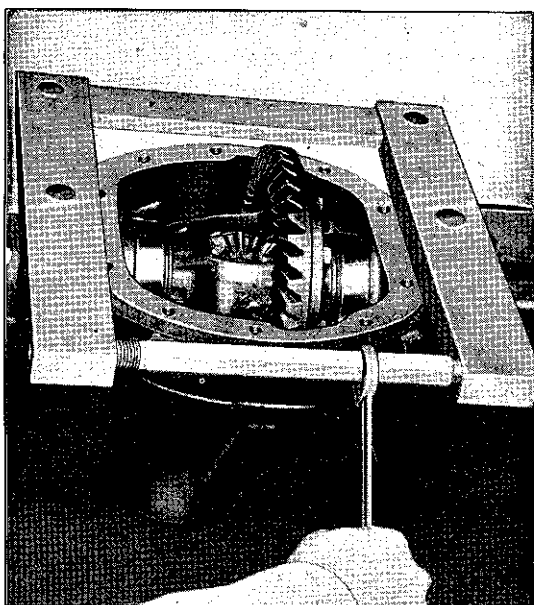

FIG. 258—DIFFERENTIAL CARRIER SPREADER
c. It is necessary to spread the carrier as the differential bearing has initial preload. Use Housing Spreader Tool W-129 as shown in Fig. 258 to spread the housing. Install W-129-18 hold down clamps, if available, to keep the spreader in position. Clamp on a dial indicator. From the side, measure the carrier spread. When the spreading force is applied, do not exceed a limit of .020" [5 mm.]. Remove the dial indicator. Carefully pry the differential case